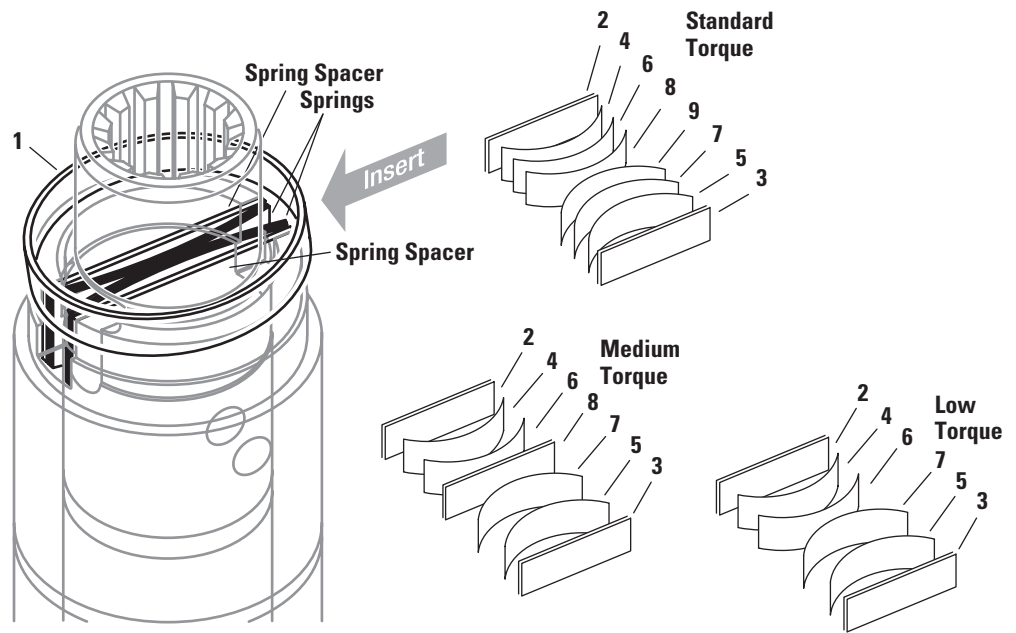

Figure 22
- Installation of spring spacers and springs, hold spring retainer at an angle as shown (see figure 22 reference number 1), insert spring spacers and springs one at a time in sequence noted by reference numbers 2 - 9 (standard torque), 2 - 8 (medium torque), 2 - 7 (low torque), then position spring retainer correctly over all these parts. Adjust alignment of spring parts with a small screwdriver.